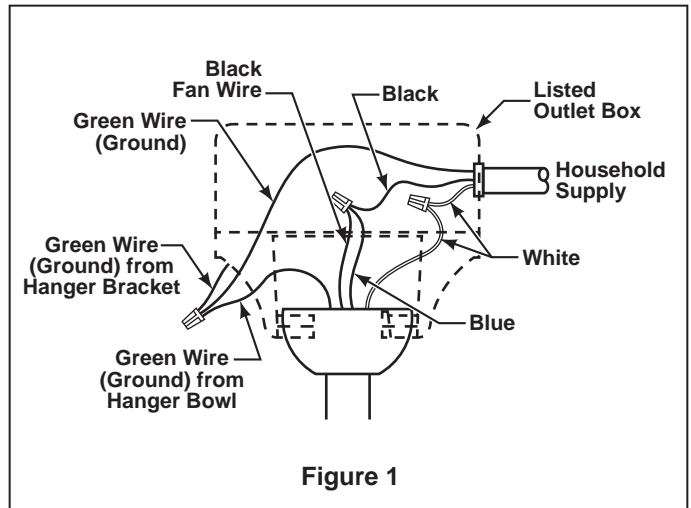

Figure 1
2. Securely connect the white fan motor wire to the white supply (neutral) wire using wire connector supplied. Securely connect the black fan motor wire and blue wire to the black supply wire using wire connector supplied (Figure 1).